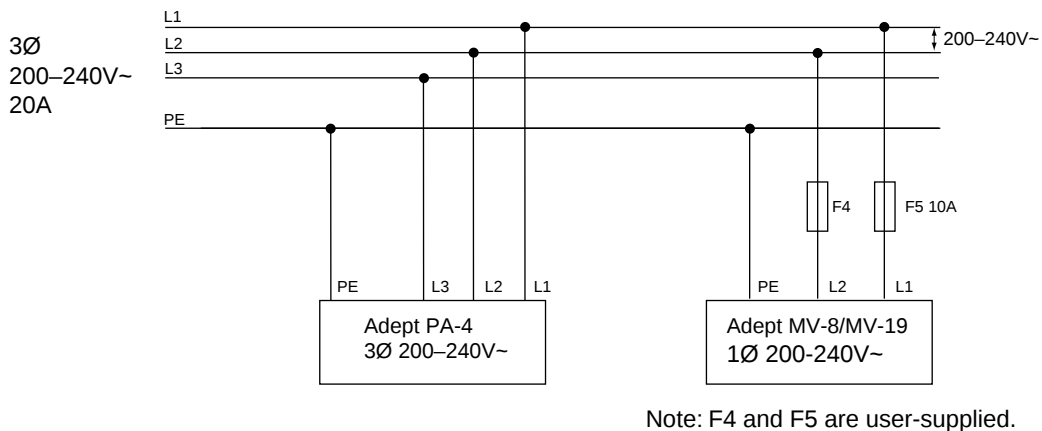
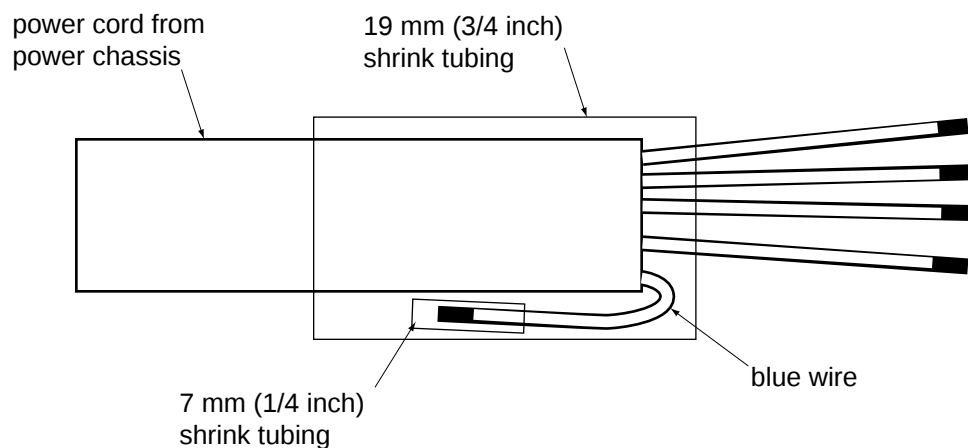

Figure 2-20. Typical 3-Phase 200-240 VAC Connection
Figure 2-21. Insulating Blue Wire in Power Cord
4. Place the 7 mm shrink tubing over the end of the blue wire in the power cord and use a heat gun to apply it. See Figure 2-21.
7. Reconnect the Adept PA-4 Power Chassis to the AC power source (see Figure 2-20 and Figure 2-21).